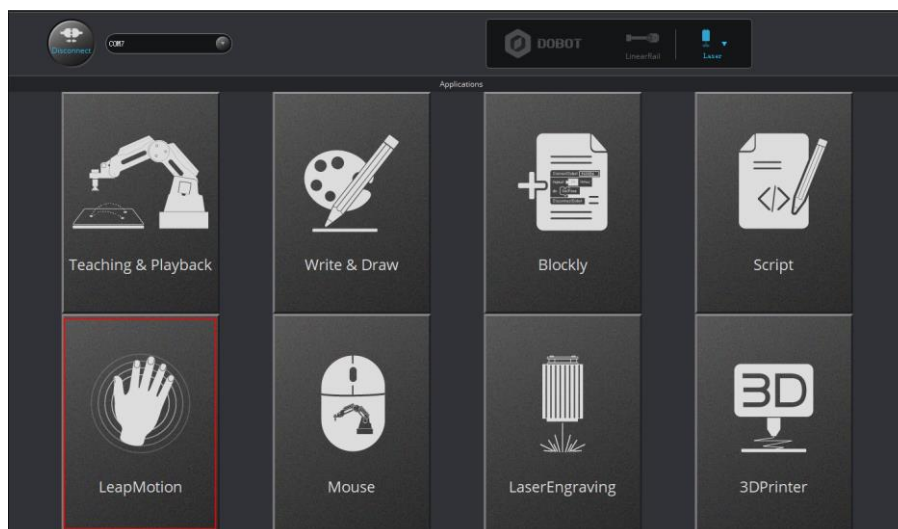

Figure 5.109 Click LeapMotion
Step 2 Click **LeapMotion**, as shown in Figure 5.109.